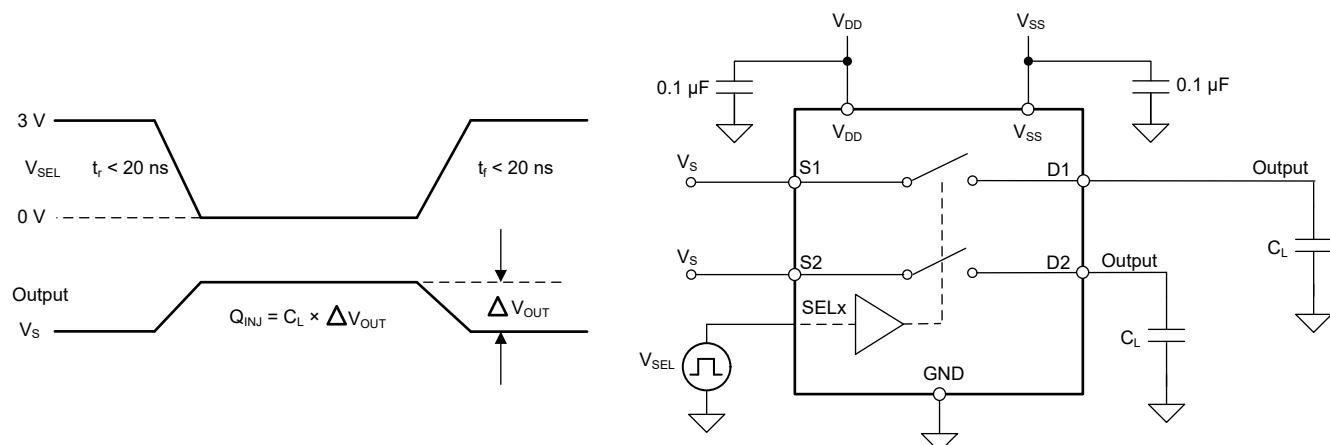

図 7-7. Charge-Injection Measurement Setup
The TMUX622x has a transmission-gate topology. Any mismatch in capacitance between the NMOS and PMOS transistors results in a charge injected into the drain or source during the falling or rising edge of the gate signal. The amount of charge injected into the source or drain of the device is known as charge injection, and is denoted by the symbol Q_C . 図 7-7 shows the setup used to measure charge injection from source (Sx) to drain (D).